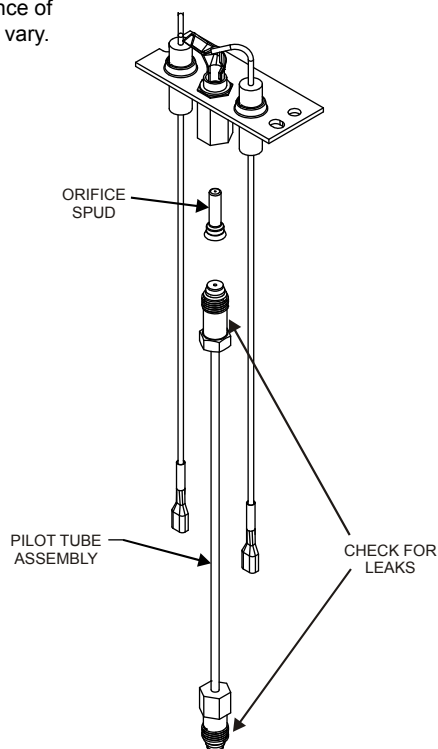

Figure 3
7. Unscrew the pilot tube fitting on the pilot and replace the orifice spud with the one included in the conversion kit. See Figure 3.
12. Use a commercially available, non-corrosive leak check solution to test for leaks around the pilot. Be sure to rinse off all leak check solution following testing. See Figure 3 for leak check points. Extinguish the pilot.